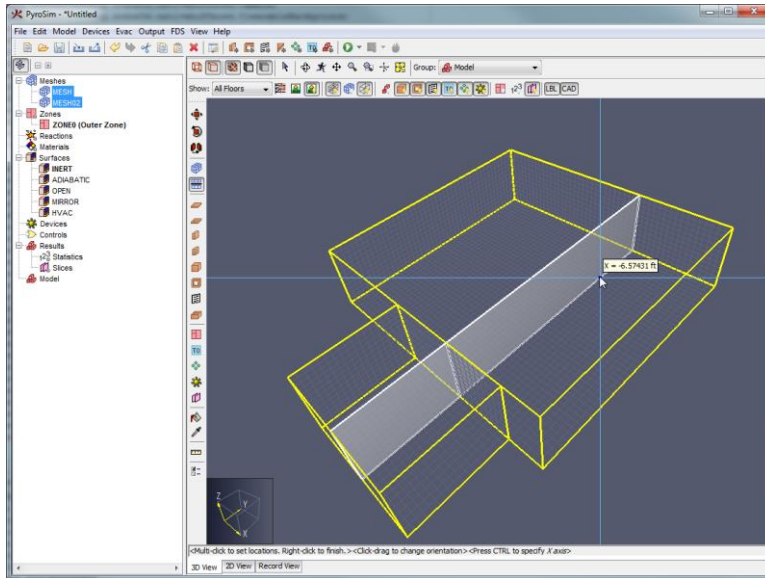

Figure 8.23. Meshes being split by the mesh splitter tool
3. Move the cursor over one of the meshes. A preview slice will show where the meshes will be split as shown in Figure 8.23. By default the tool will choose the split axis based on the nearest boundary edge of a selected mesh. The split axis can be explicitly set through the right-click